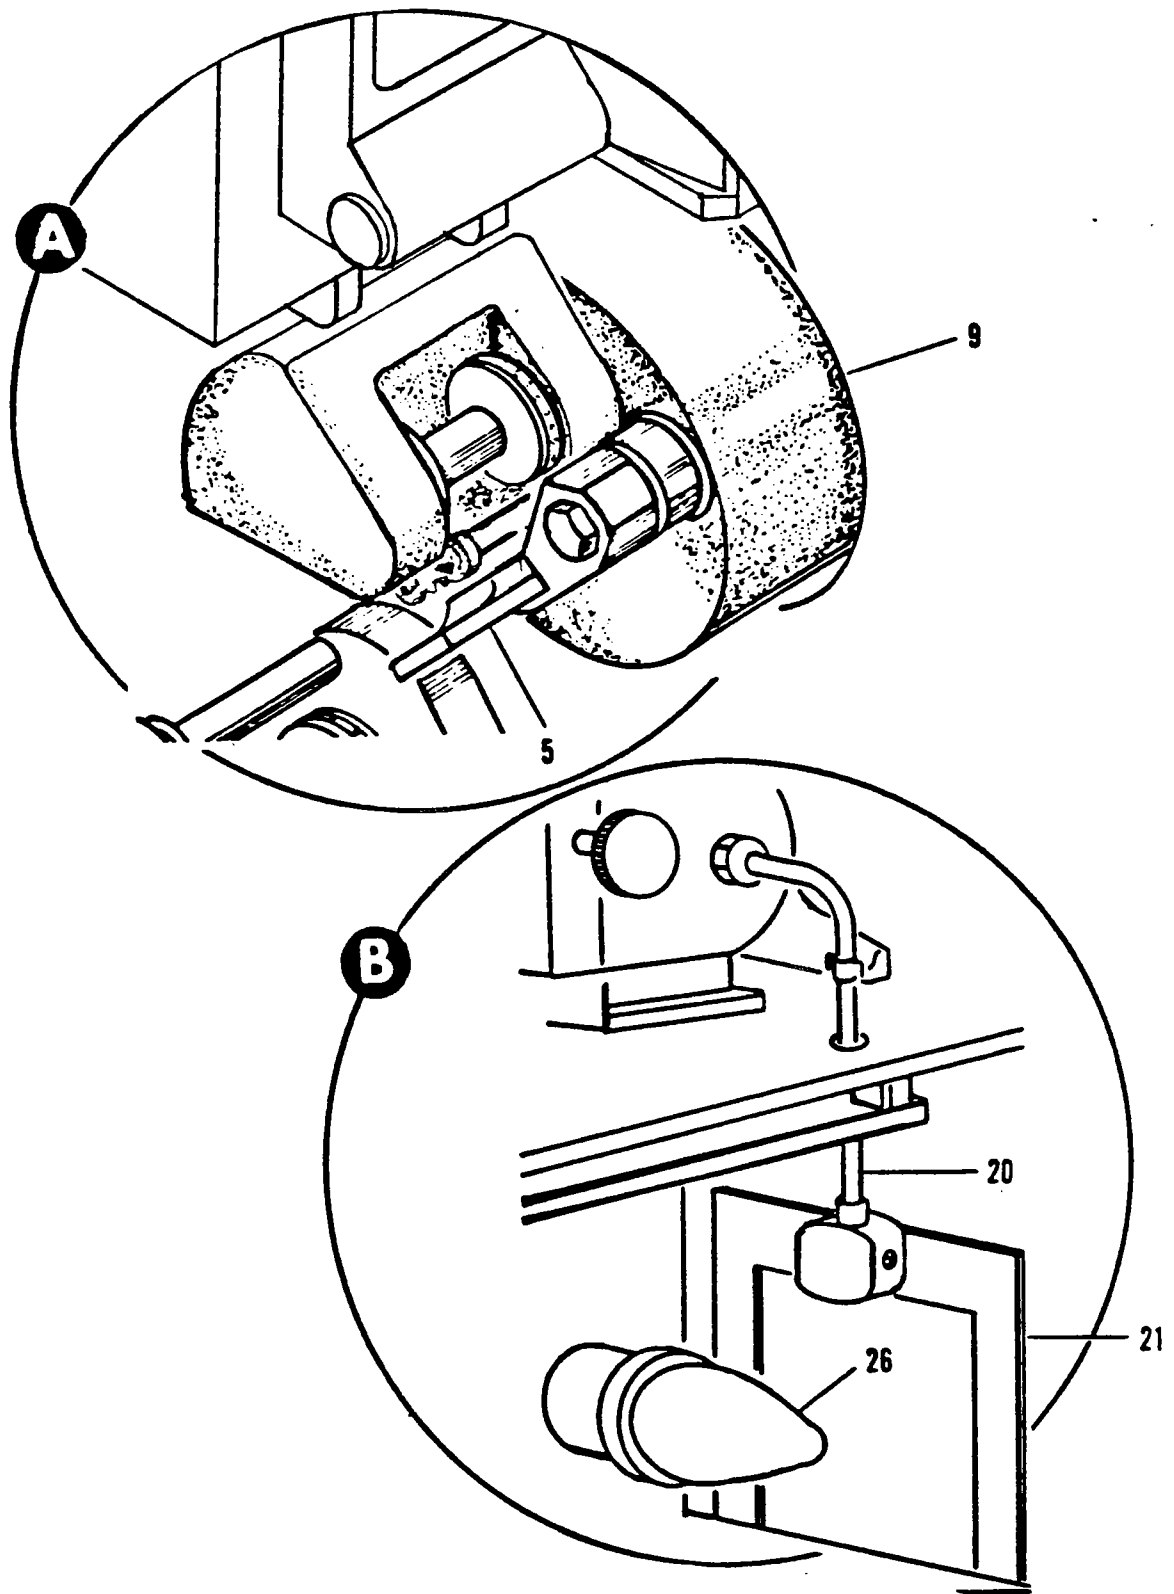

FIGURE 3-2. PROJECTOR PARTS LOCATION
- 4-10. Removal of Ultramittent Assembly. (9, Figure 3-2)